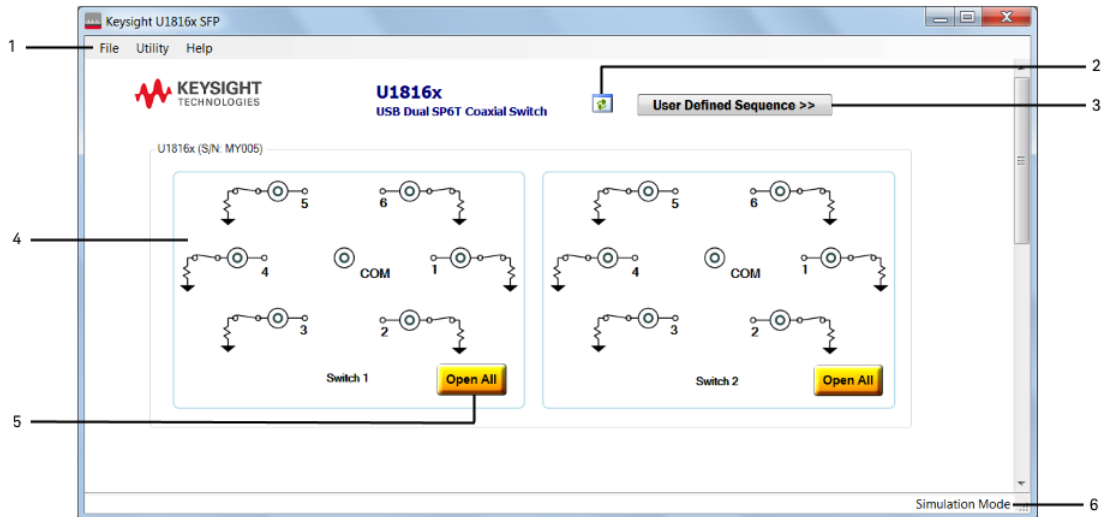

Figure 4-3 U1816A/C main SFP interface
- 4 The main SFP interface is shown in **Figure 4-3** and described in **Table 4-1**.